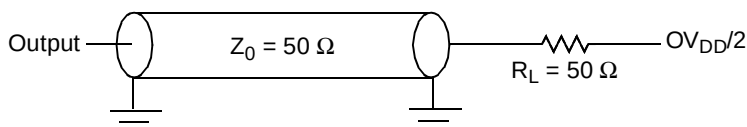

Figure 14. Local Bus C Test Load
Figure 14 provides the AC test load for the local bus.
- All outputs are measured from the midpoint voltage of the falling/rising edge of t_{TCLK} to the midpoint of the signal in question. The output timings are measured at the pins. All output timings assume a purely resistive 50- Ω load (see Figure 14). Time-of-flight delays must be added for trace lengths, vias, and connectors in the system.
- The symbols used for timing specifications follow the pattern of $t_{(\text{first two letters of functional block})(\text{signal})(\text{state})(\text{reference})(\text{state})}$ for inputs and $t_{(\text{first two letters of functional block})(\text{reference})(\text{state})(\text{signal})(\text{state})}$ for outputs. For example, t_{JTDVXH} symbolizes JTAG device timing (JT) with respect to the time data input signals (D) reaching the valid state (V) relative to the t_{JTG} clock reference (K) going to the high (H) state or setup time. Also, t_{JTDVXH} symbolizes JTAG timing (JT) with respect to the time data input signals (D) went invalid (X) relative to the t_{JTG} clock reference (K) going to the high (H) state. Note that, in general, the clock reference symbol representation is based on three letters representing the clock of a particular functional. For rise and fall times, the latter convention is used with the appropriate letter: R (rise) or F (fall).